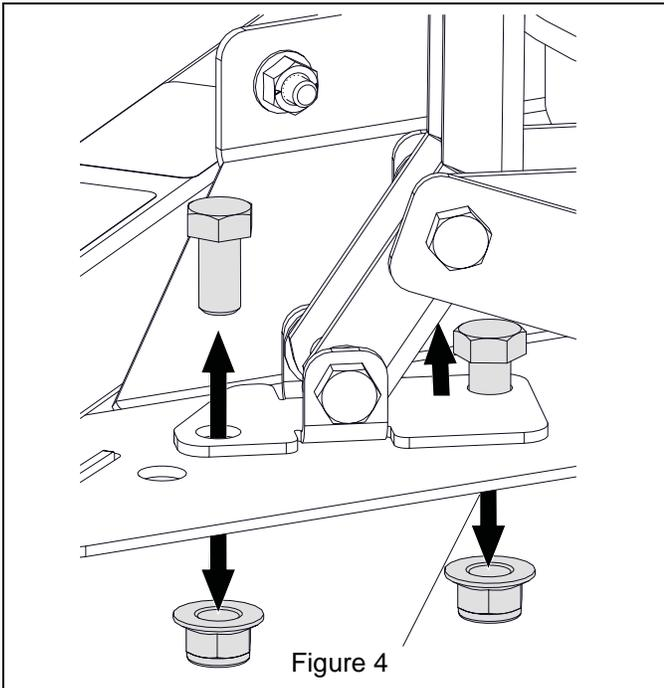

Figure 4
1. Remove and discard hex bolts and nylon locking flange nuts from the idler tensioner lever. See Figure 4.